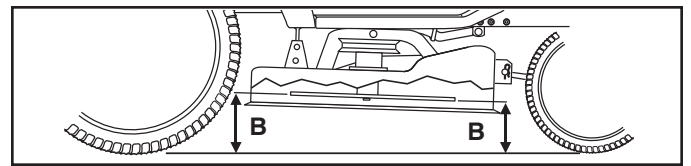

Fig. 35
**FRONT-TO-BACK ADJUSTMENT** (See Figs. 35 & 36)